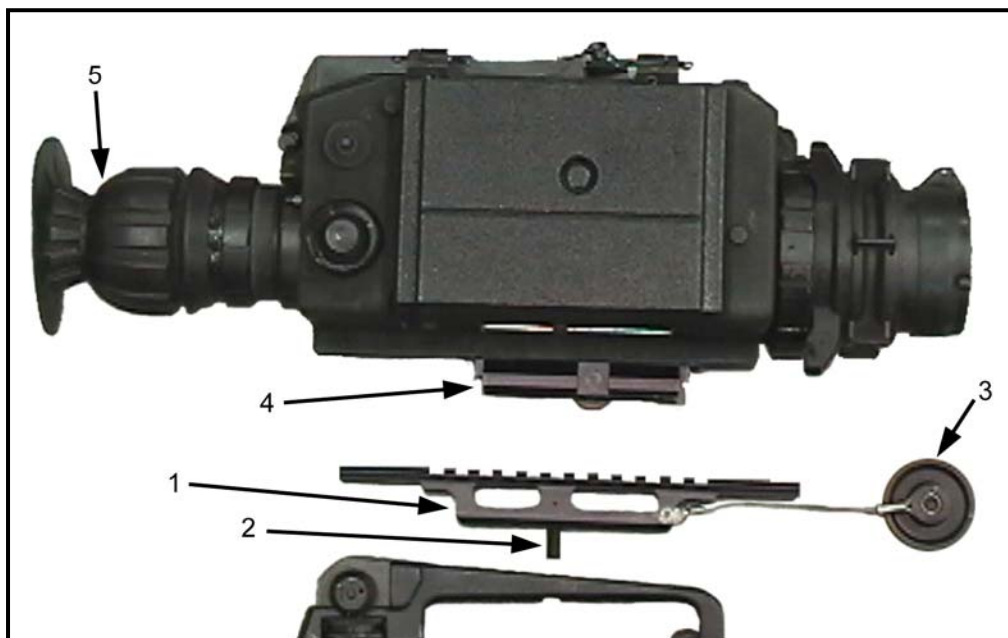

Figure 2-35. Mounting TWS on an M16A1/A2/A3.
a. **M16A1/A2/A3 Rifle** (Figure 2-35, page 2-24). The M16A1/A2/A3 weapon bracket (1) is a standard item in the TWS carrying case. The weapon bracket's threaded rod (2) is inserted through the hole in the carrying handle of the M16A1/A2/A3 and secured with the thumb wheel (3). The Picatinny rail grabber (4) on the bottom of the TWS is then aligned with a notch on the bracket, ensuring the TWS is positioned to accommodate an effective firing position once the eyecup (5) is depressed. Ensure the rail grabber fully rests on the bracket when mounting the TWS or the sight will not retain zero.